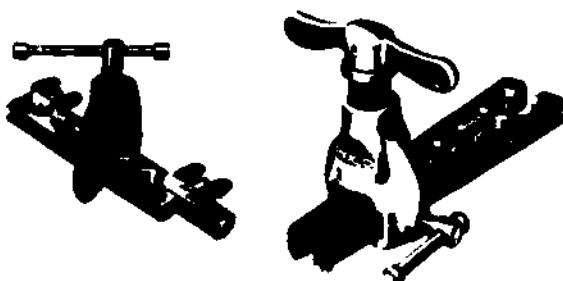

Figure 1-66. Two Types of Flaring Tools
b) Two typical models are shown in Figures 1-66.